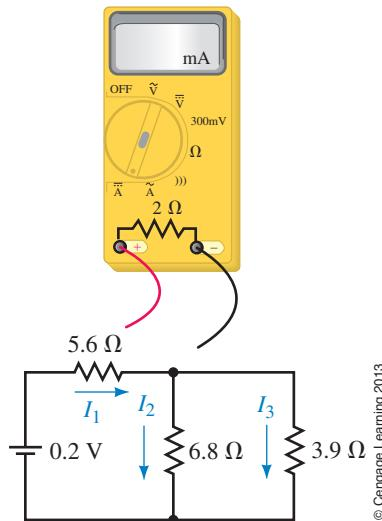

FIGURE 7-76
- 37. An ammeter is used to measure current in the circuit shown in Figure 7-76.
- 38. Suppose the ammeter in Figure 7-76 has an internal resistance of 0.5Ω .